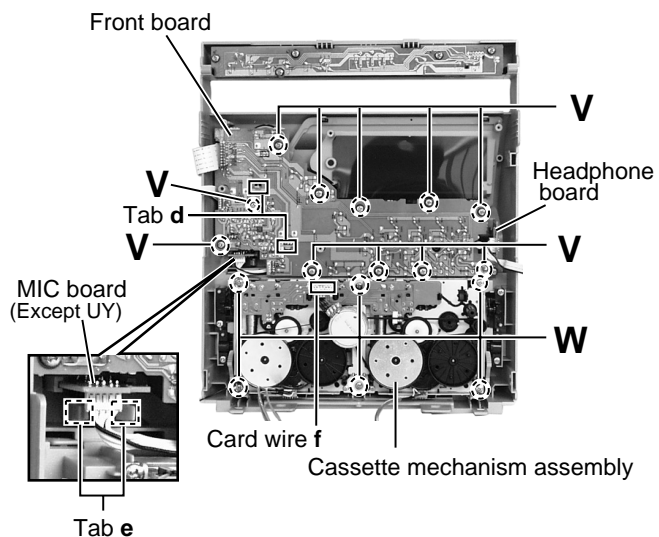

Fig.20
■Removing the headphone board (See Fig.20)
■Removing the front board / MIC board (See Fig. 20 and 21)
■Removing the cassette mechanism assembly (See Fig.20)